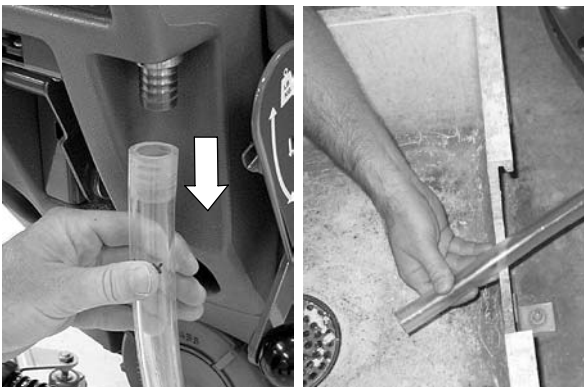

FIG. 32
1. To drain any remaining water from the solution tank, pull the solution tank level hose off the hose fitting as shown (Figure 32).